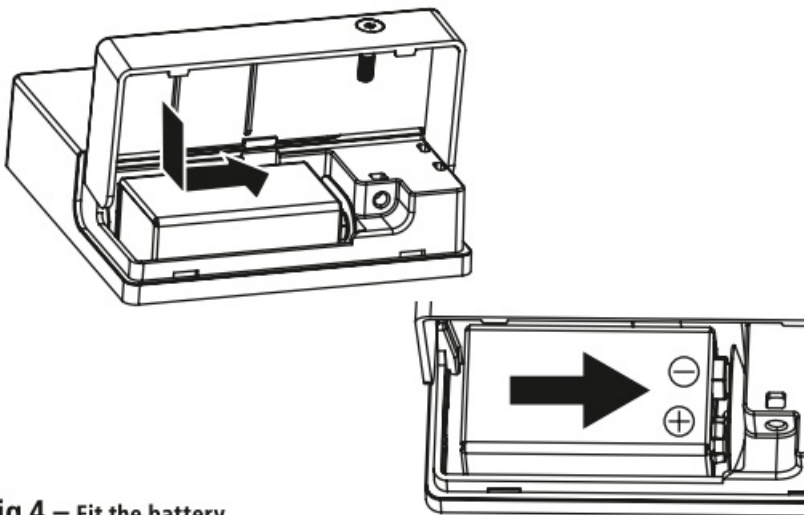

Fig 4 – Fit the battery
4.3 Fit the 9V battery (supplied) maintaining the correct polarity. (Fig. 4)